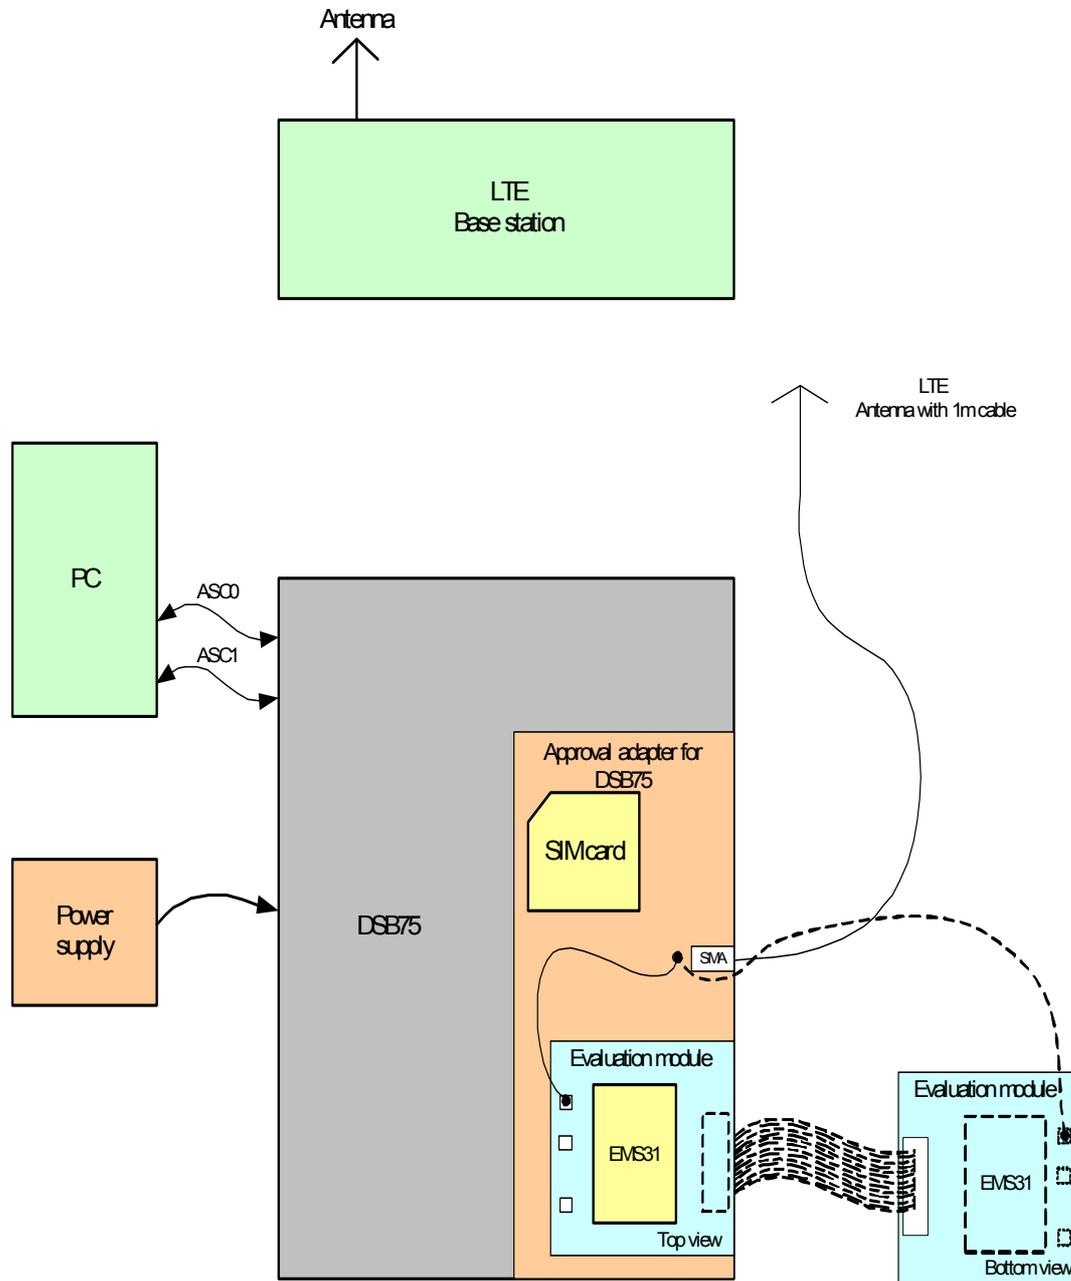

Figure 9: Reference equipment for Type Approval
1. For RF performance tests a mini-SMT/U.FL to SMA adapter with attached 6dB coaxial attenuator is chosen to connect the evaluation module directly to the LTE test equipment instead of employing the SMA antenna connectors on the EMS31-X-DSB75 adapter as shown in Figure 9. The following products are recommended: